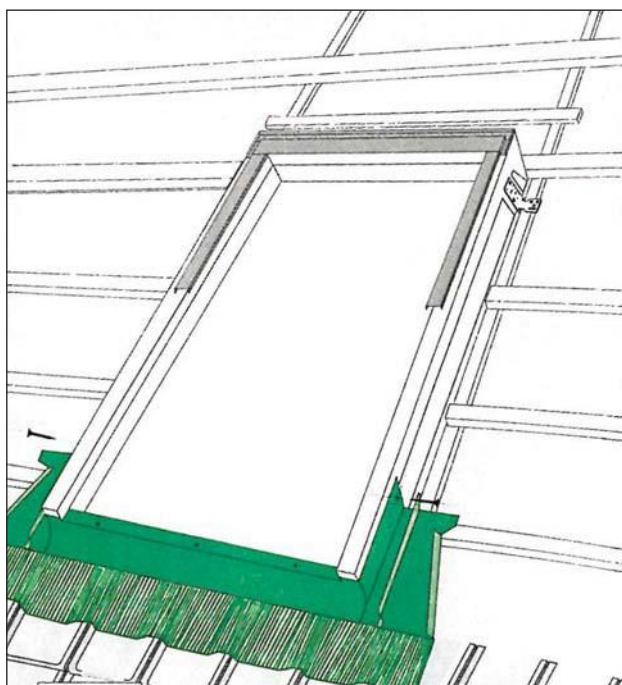

Fig 13
15) Position on the bottom flashing (3) on the roof surface. After positioning the bottom flashing, nail it to the frame side on its upper edge (Fig 13).